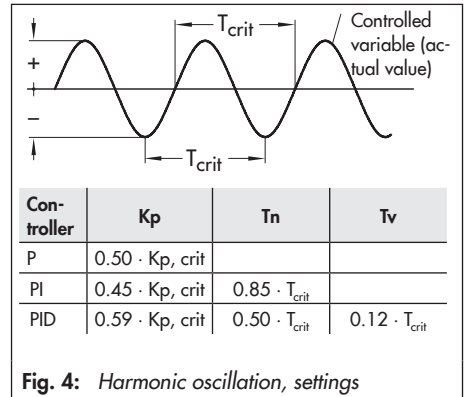

Fig. 4: Harmonic oscillation, settings
6. Starting from a low value, increase the proportional-action coefficient K_p until the red controlled variable pointer shows an harmonic oscillation pattern of the controlled variable (uniform oscillation amplitudes as shown in Fig. 4).
8. Multiply value for $K_{p, crit}$ and value for T_{crit} (with PI/PID controller) with the values in the table (Fig. 4) and set them as the favorable settings for K_p , T_n , and T_v at the controller.